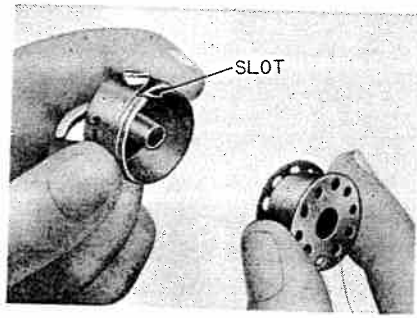

Fig. 8
Step 1 (illustrated in Fig. 8). Hold bobbin case between thumb and forefinger of left hand, so that the slot in the edge of the bobbin case is on top. Take the bobbin between thumb and forefinger of right hand so that the thread on top leads from left to right.